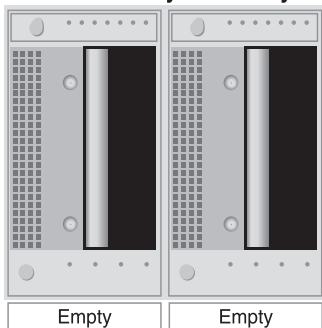

Figure 67 Status screen
3. Click on the library to access the **Status** screen (see Figure 67).